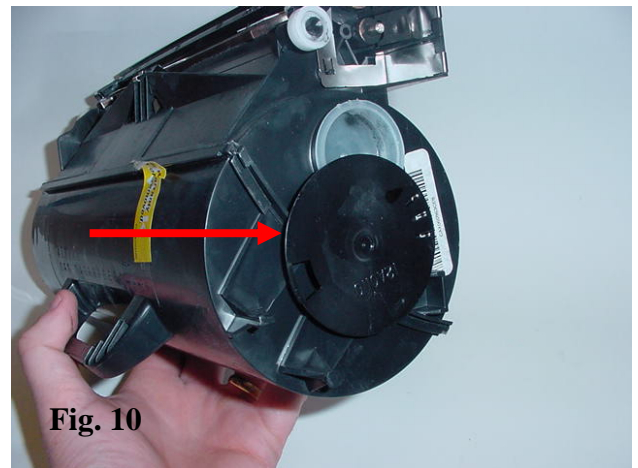

Fig. 10
10. Remove the toner wheel from the toner hopper (Fig. 10).